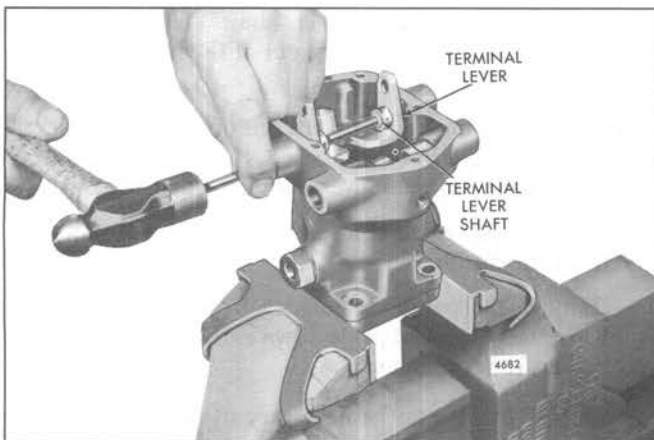

Fig. 11 – Removing Cup Plug from Governor Housing
17. Place a 1/4" brass rod approximately 5" long through the terminal lever shaft opening in the governor housing and terminal lever and against the inner end of the second terminal lever shaft. Then drive the governor housing cup plug out of the housing boss as shown in Fig. 11.
19. Remove the terminal lever-to-power piston pin (47) from the piston.